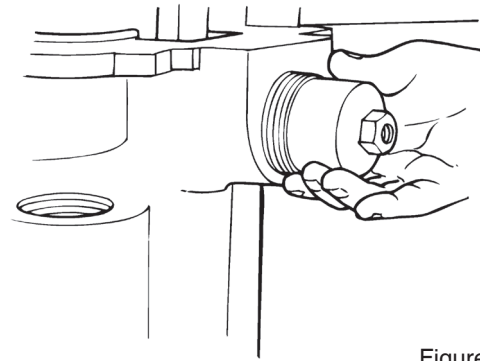

Figure 6.7
4. Remove the shift cylinder and piston assembly from the differential by turning it to the left. Figure 6.7.